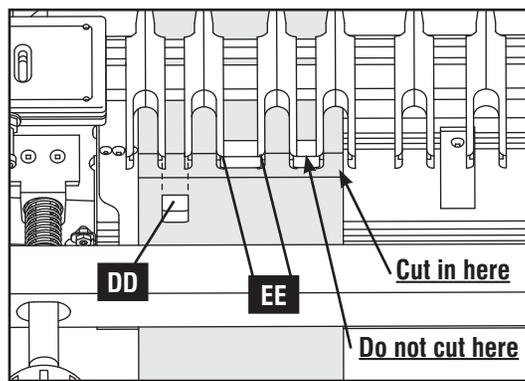

Fig. E12
- NOTE:** If desired, before making the cut, create 1/2" x 1/2" wood spacers (DD) Fig. E12 and insert them between adjacent fingers. (Place them between the square corners (EE), where you are not cutting.) This will keep the router from cutting into the tails and removing excess material.
8. Climb cut from right to left slowly along face of the board, then clean out the proper areas moving slowly from left to right. Be sure to cut only between the rounded edges, not between the square ones. (Fig. E12)